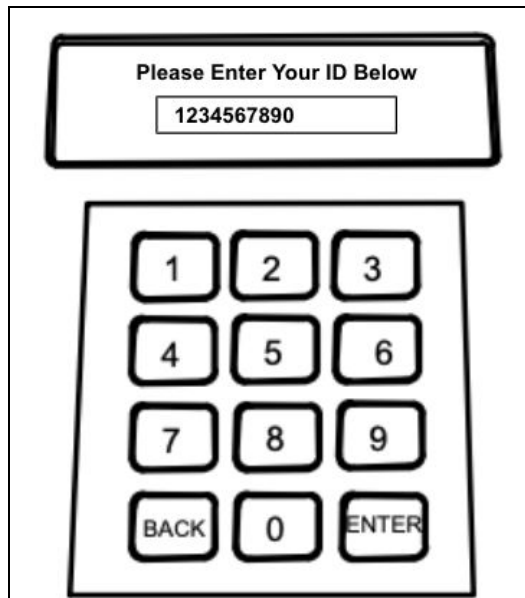

Figure 6
1. Verify the base station's display shows the "Please Enter Your ID Below" message. If it is not illuminated, then press a button on the keypad. Enter your ID and press the "ENTER" button. (Figure 6)